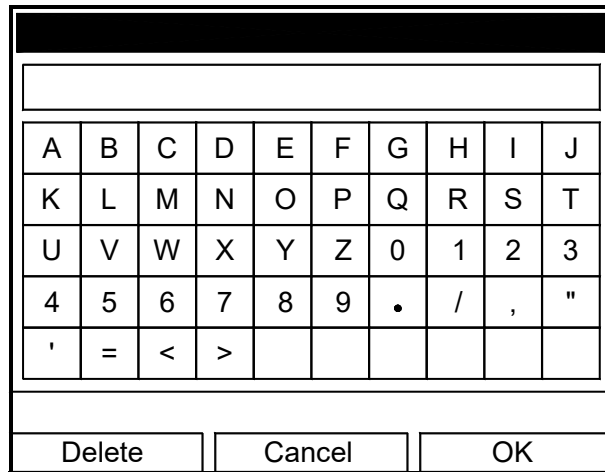

Figure 30: Text Creation Window
- a. Press **[ENTER]** to open the text creation window, which appears similar to Figure 30 below.